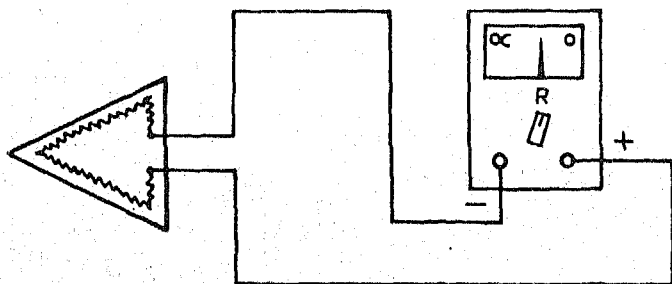

Fig.14.5 The reading shows some low value of resistance. This is the proof of continuity.
**Continuity Check:** Connect the multimeter as shown in Fig. 14.5. A low resistance value (depending upon the applian-